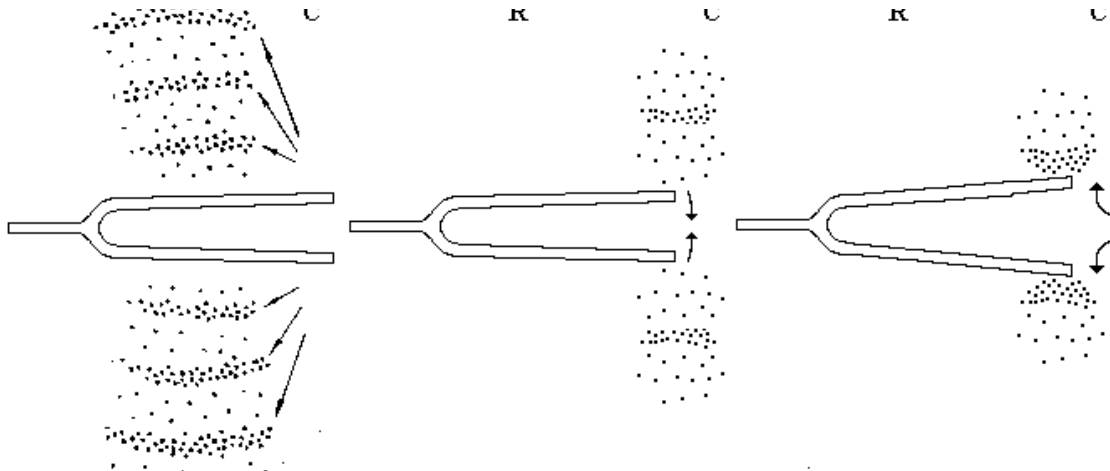

Figure 3. This figure shows motions for a tuning fork. We expect a lower fundamental mode frequency if the fork prongs are longer.
If a slot is cut in the end of the pipe then the ends of the pipe can also move away from each other, in a way similar to a tuning fork (see Figure 3).
- Look for patterns in the spectra to see if you can determine which modes correspond to tuning fork-like motions as shown in Figure 3.